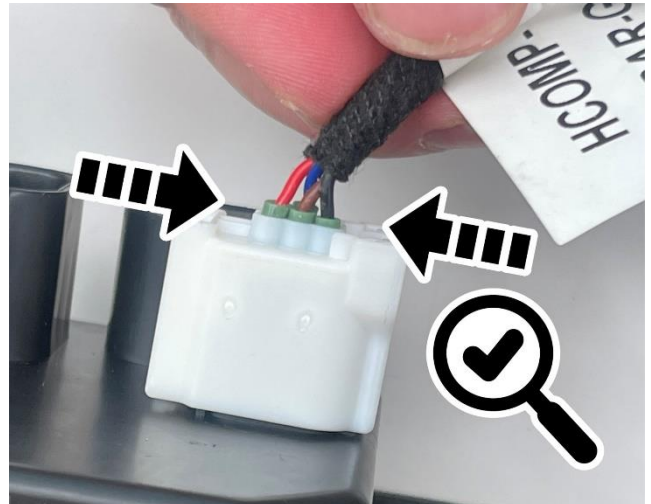

Figure 9 – Connector Connected
- 17. Apply friction tape (Tesa) to the wires on the back of the connector. And reconnect the electrical connector to the module (Figure 9).